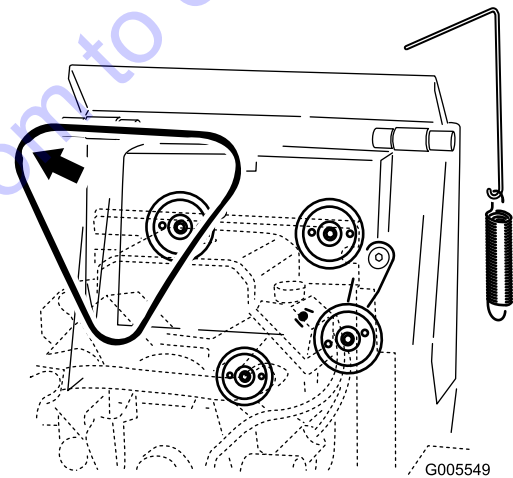

Figure 54
6. Remove the belt from the 3 pulleys (Figure 54).